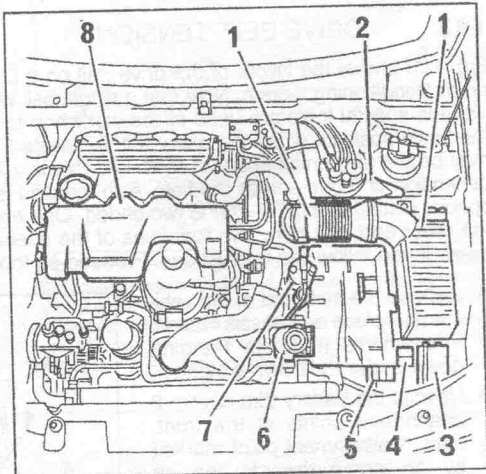
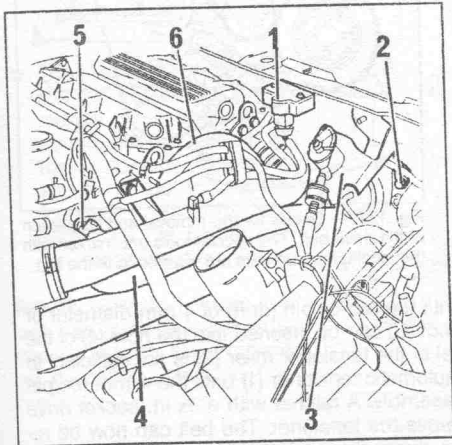

Fig. 1.71. — Details for the removal of the water pump. The numbers are referred to in the text.
Fig. 1.72. — Remove the parts shown to gain access to the water pump. Numbers are referred to in the text.
- Drain the cooling system as described as described on Page 75 and than refer to Fig. 1.71. Remove in the following order: The air cleaner together with the air inlet tube (1), the LHM fluid reservoir (2) as described in the respective section. Remove the securing screws and place the following units to one side: the fuse box (3), the pre-heater control unit (5), the diesel fuel priming pump (6) and the dehydrator reservoir (7).
- Unclip the electrical harnesses from the battery tray and the fuse carrier boxes (4) from the cooling fan unit.
- Remove the battery tray and the trim cover (8).
- Refer to Fig. 1.72 and remove at the locations shown the air pressure sensor (1) and the screw (2). Tilt the accelerator support (3) away from the engine. Disconnect the hose (4) from the coolant outlet housing and the plug from the air temperature sensor (5). Free the hoses and electrical cables from the turbo charger section pipe (6).
- After installation and/or connection of the items shown in Figs. 1.71 and 1.72 fill and bleed the the cooling system as already described.